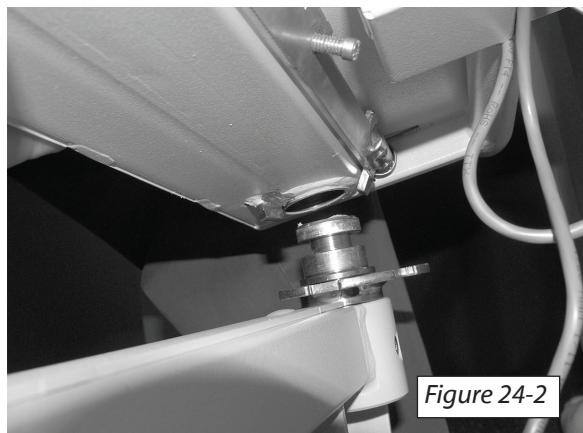

Figure 24-2
5. Line up the post holes on the seat with the post holes on the chassis. Push the swivel handle downward and slide the seat onto the rooster post. [Figure 24-2]